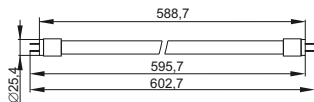

Рисунок 1 – Лампа Led Tube T8, 9 Вт, цоколь G13 / Figure 1 – LED-T8 lamp, 9 W, G13 lamp base
2.3 The overall dimensions of the lamps are shown in the figures 1–18.